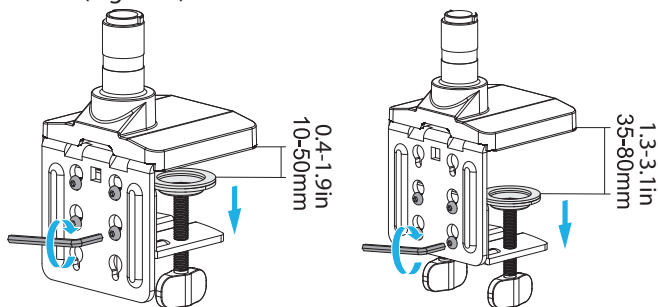

Figure 6
- Pass the **Screws** through the **Screw Holes** in the **Top Desk Clamp**. Choose the **Top** and **Middle** or **Middle** and **Bottom** **Screws Holes** based on the **Thickness** of the **Desk**. Slide the **Screws** down into the smaller portion of the **Screw Holes**. (Figure 6)